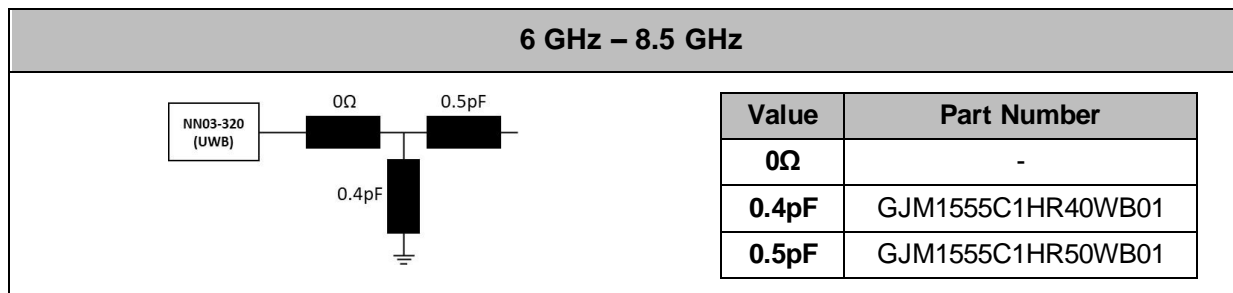

Figure 2 – Matching network implemented in the Evaluation Board (Figure 1) for covering the frequency region from 6GHz to 8.5GHz.
The antenna performance is **always conditioned by its operating environment**. Different devices with different printed circuit board sizes, components nearby the antenna, LCD's, batteries, covers, connectors, etc. may require retuning the matching network for best RF performance. Accordingly, it is highly recommended to place pads compatible with 0402 and 0603 SMD components for a matching network as close as possible to the feeding point of the antenna element in the ground plane area, not in the clearance area. This provides a degree of freedom to tune the DUO mXTEND[™] antenna component once the design is finished and considering all elements of the system (batteries, displays, covers, etc.). To ensure optimal results, the use of high-quality factor (Q) and tight tolerance components in the matching network is highly recommended (e.g., Murata components (Figure 2)).
Figure 3 – VSWR and Total Efficiency for the UWB High Frequency Response (6.0 GHz – 8.5 GHz) from the Evaluation Board (Figure 1) with the matching networks in Figure 2.
Table 2 – Antenna gain and total efficiency from the Evaluation Board (Figure 1) for 6GHz – 8.5GHz with the matching network of Figure 2.